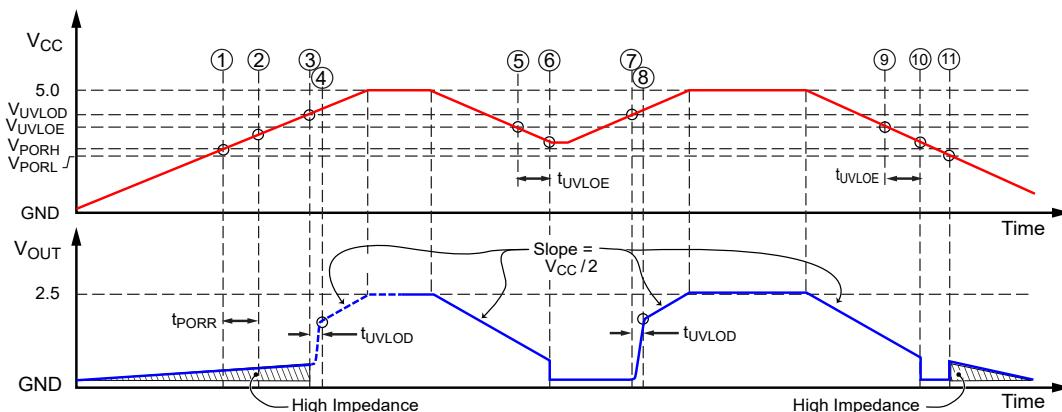
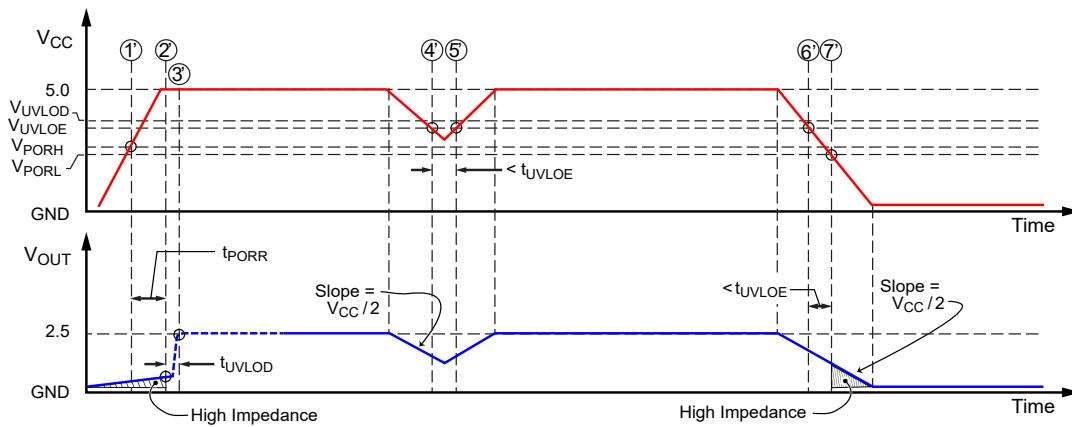

Figure 11: POR and UVLO Operation – Slow Rise Time Case – 5 V Mode
Figure 12: POR and UVLO Operation – Fast Rise Time Case – 5 V Mode
- Power-Up.** At power-up, as V_{CC} ramps up, the output is in a high-impedance state. When V_{CC} crosses V_{PORH} (location [1] in Figure 11 and [1'] in Figure 12), the POR Release counter starts counting for t_{PORR} . At this point, if V_{CC} exceeds V_{UVLOD} [2'], the output will go to $V_{CC} / 2$ after t_{UVLOD} [3']. If V_{CC} does not exceed V_{UVLOD} [2], the output will stay in the high-impedance state until V_{CC} reaches V_{UVLOD} [3] and then will go to $V_{CC} / 2$ after t_{UVLOD} [4].